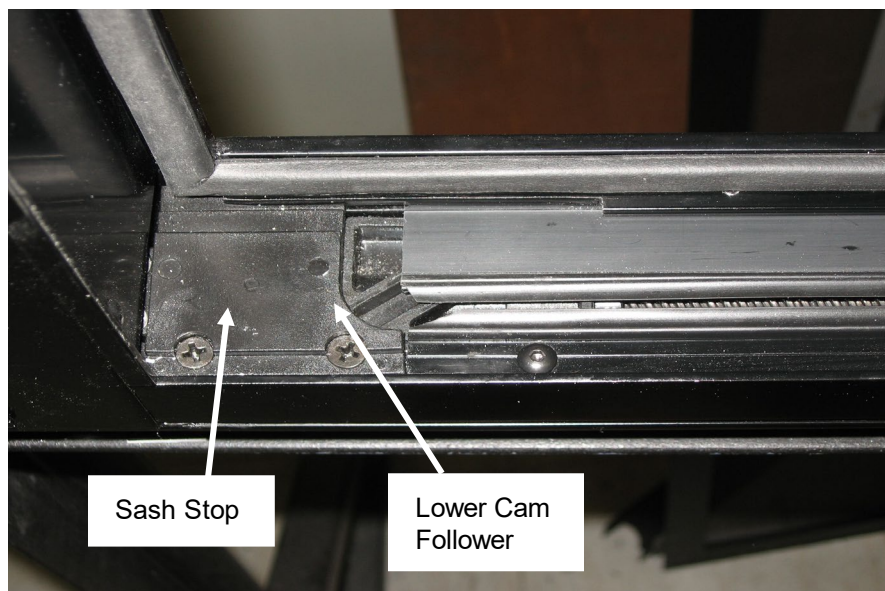

FIGURE 46: PROPER ALIGNMENT
1. Align the leading edge of the slot on the lower cam follower block with the sash stop. Use the power toggle switch to obtain the correct alignment. (Figure 46)